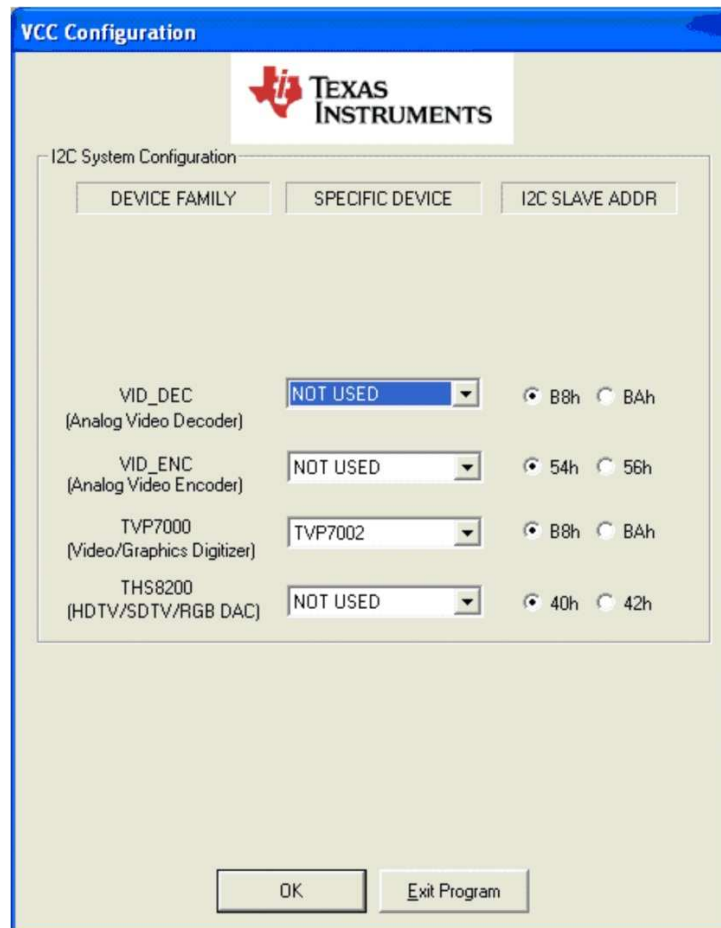

Figure 9. VCC I²C Configuration Dialog
1. Following execution of VCC, the VCC Configuration screen appears (see Figure 9). This dialog box configures the I²C bus. Next to TVP7000, select the TVP7002 and ensure the I²C slave address is set to B8h